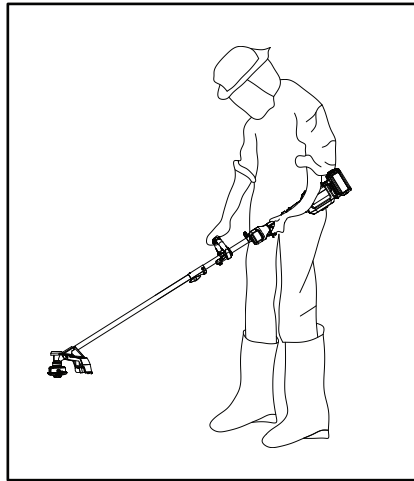

Fig. 27
7. Ensure that the angle of the cutting head is parallel to the surface being cut (Fig. 27).